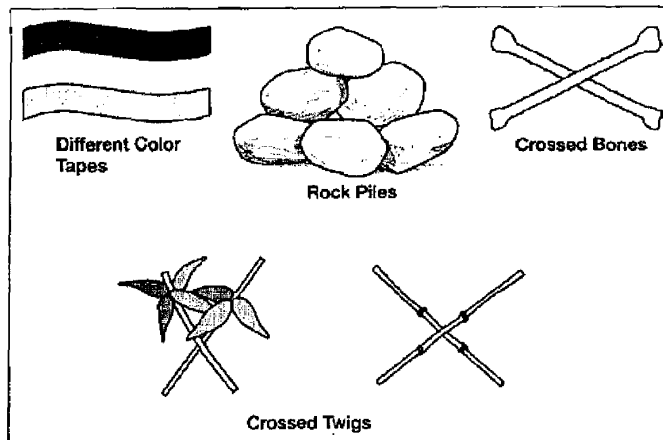

Figure 052-192-1242-1. Samples of Mine Markings
- (21) Trip wires, strings, or cables.
- (22) Evidence of electrical wires, batteries, mouse traps, clothes pins, steel tubes, or springs.
- (23) Small shiny metal plates, split lightweight bomb casings, empty cluster bomb canisters, and small parachutes or drogues (funnel shaped drag chute) from submunitions (all indicators of cluster bomb strikes or scatterable-mine attacks).
- b. Improvised markings of mines, booby traps, and UXOs (Figure 052-192-1242-1).